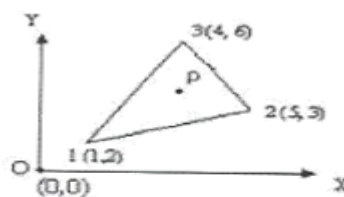

Figure.4
b. The nodal coordinates of the triangular element shown in figure 4 At the interior point P the x coordinate is 3.3 and the shape function at the node 1 is N_1 is 0.3 Determine the shape functions at nodes 2 and 3 and also y coordinate of point P
10. Determine all natural frequencies of the simply supported beam shown in Figure.4. Take $E = 200 \text{ GPa}$ and density $= 7840 \text{ kg/m}^3$.